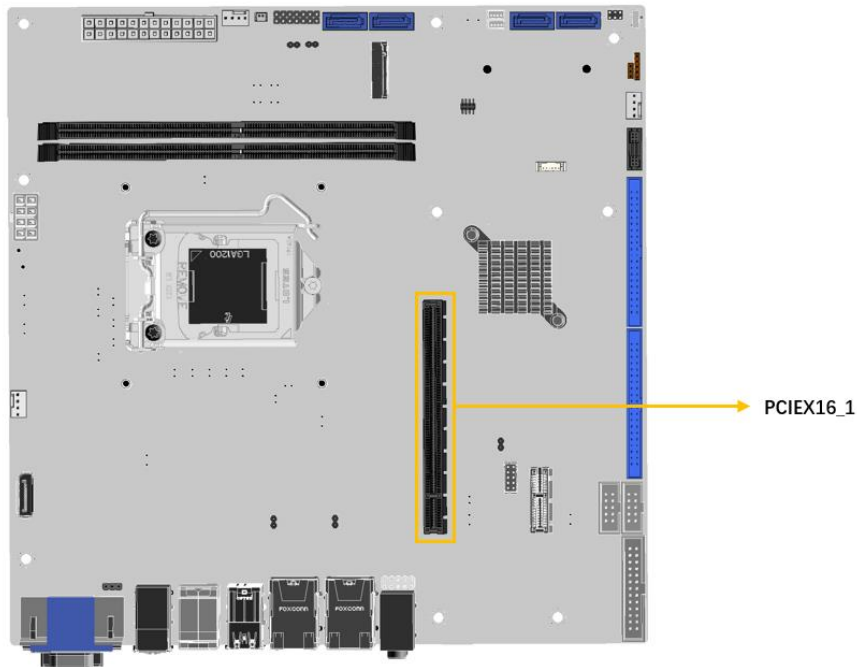

Figure 3-31: PCIe x16 Slot Location
- CN Location:** See **Figure 3-31**